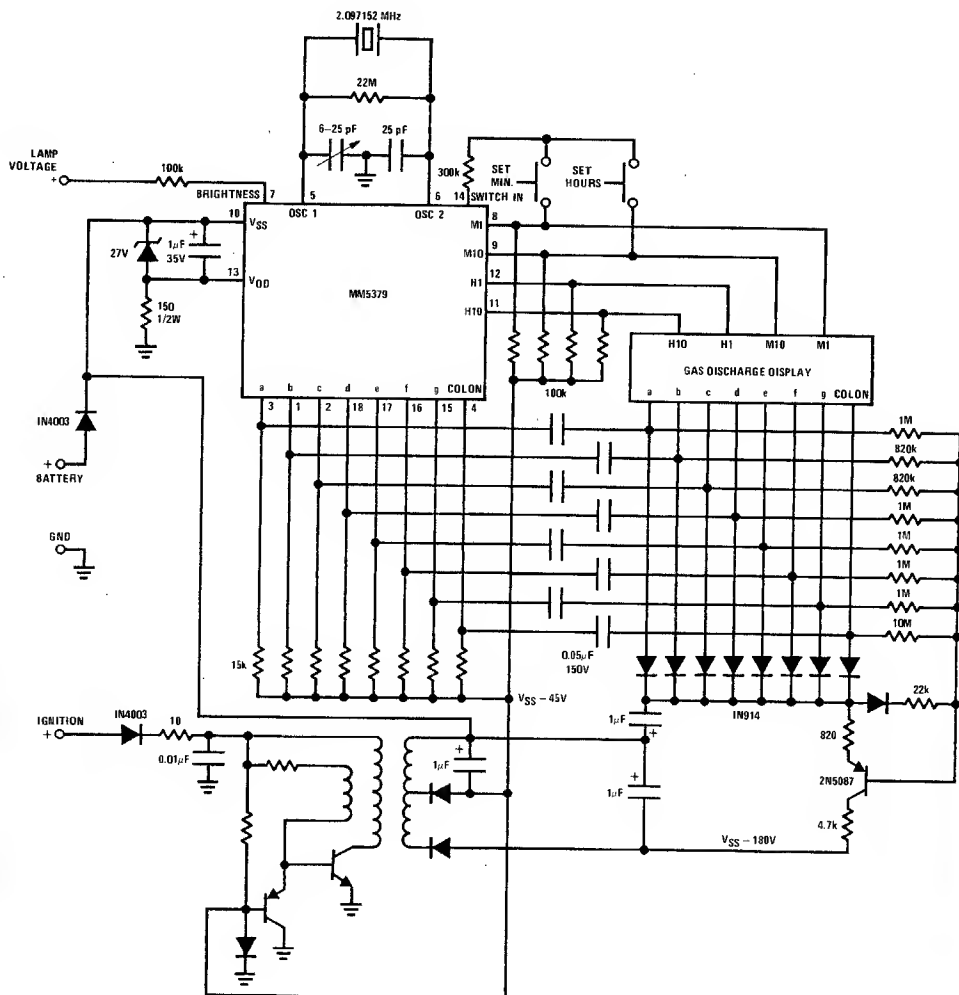

FIGURE 7. Typical Application for MM5379
**Output Circuits:** All display output drivers, both digit and segment outputs, are open-drain enhancement devices (Figure 6). Thus, all outputs are capable of sourcing currents while external pull-downs are required to sink currents. Figure 7 illustrates method of interfacing these outputs to gas discharge displays.